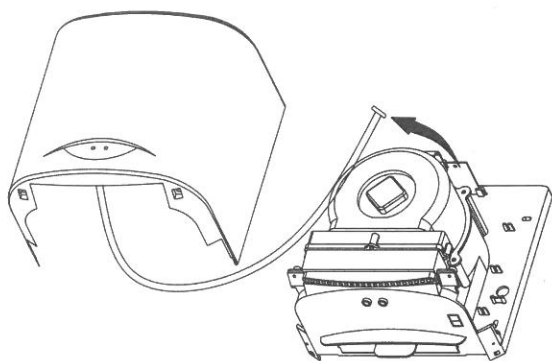

Fig 1
- Release the plug of the sensor lead at the circuit board. See fig 1